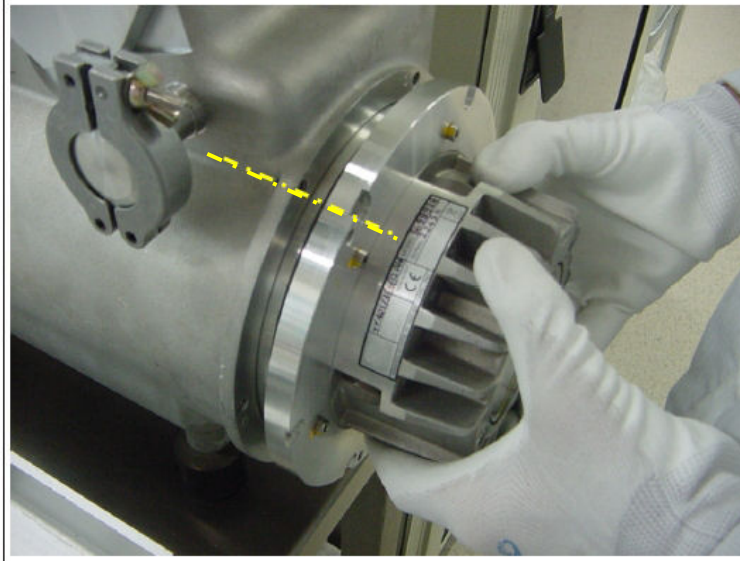

Figure 36
- 1 Insert the pump into the chamber carefully and without tilting it. Align the 6 insertion smooth holes of the pump flange with the 6 threaded holes in the chamber flange (Fig. 36), in order to obtain the de-sired foreline orientation.